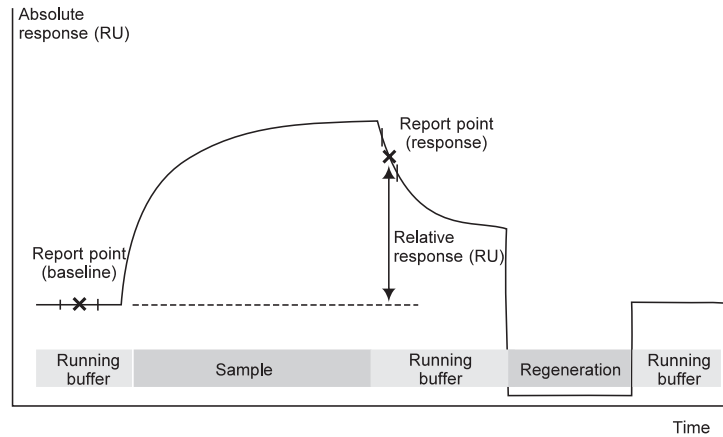

Figure 1-4. Schematic illustration of a sensorgram. The bars below the sensorgram curve indicate the solutions that pass over the sensor surface.
At the end of the sample injection, sample is replaced by a flow of running buffer and bound sample can dissociate from the surface. If the dissociation rate is rapid, sample dissociates completely within a short time and the surface can be used directly for the next analysis. For slower dissociation rates, the surface can be washed with an injection of regeneration solution designed to remove bound sample (see Figure 1-4).
- Response is measured in *resonance units* (RU). The response is directly proportional to the concentration of biomolecules on the surface.
- A *sensogram* is a plot of response against time, showing the progress of the interaction (Figure 1-4). This curve is displayed directly on the computer screen during the course of an analysis.
- A *report point* records the response level and sensogram slope at a specific time averaged over a short time window. The response may be absolute (above a fixed zero level determined by the detector) or relative to the response at another specified report point (Figure 1-4).